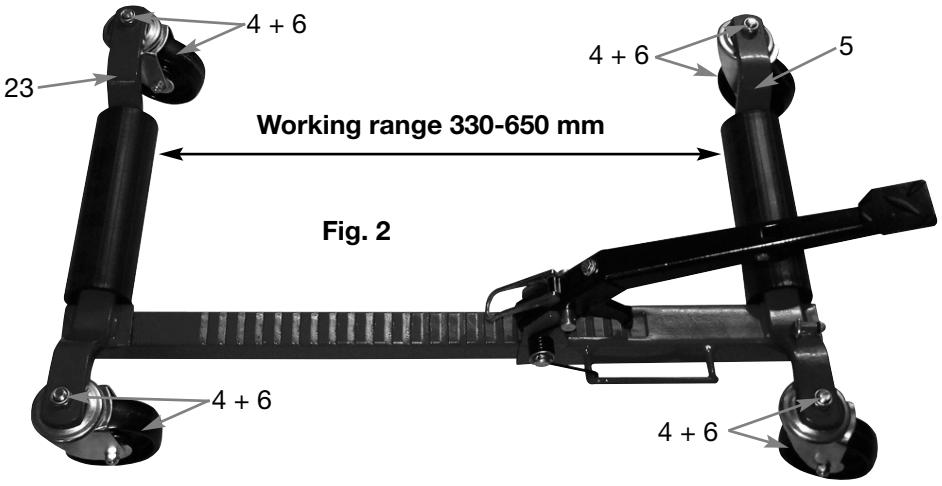

Fig. 2
3. Spread the base leg assemblies far enough apart where they will straddle the tire (**Fig. 2**).